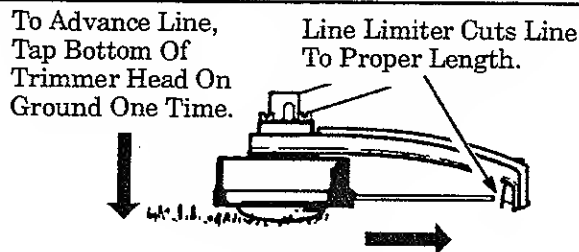

Figure 11
- Always keep the shield in place when the tool is being operated. Figure 11.
3. Tap the bottom of the trimmer head lightly on the ground one time. See Figure 11. Approximately 2 inches of line will be advanced with each tap.